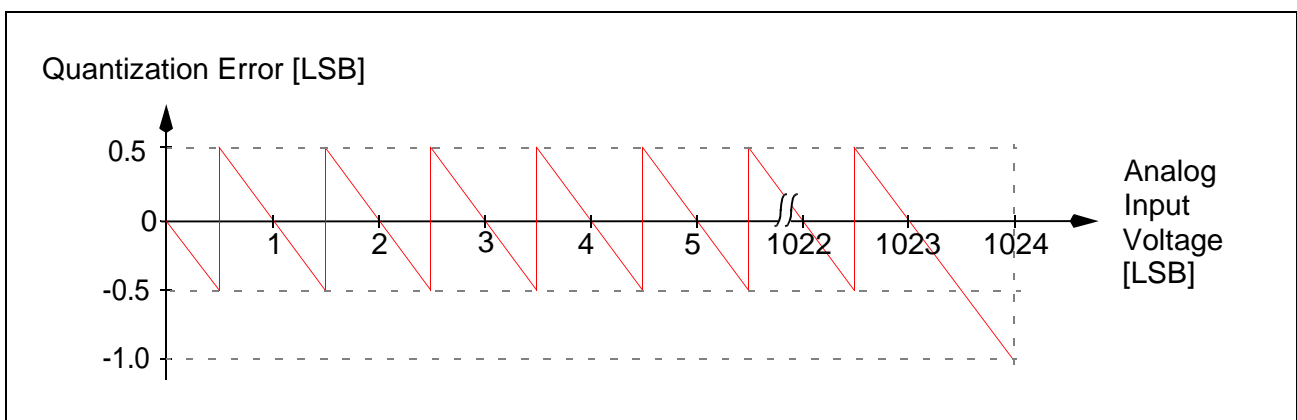

Figure 2 Quantization Error
The quantization step size is $1 \text{ LSB} = V_{\text{AREF}} / 2^f$. According to the Ideal Transfer Curve (1) the first digital transition, from 0 to 1, occurs at the analog value of 0.5 LSB. That is why the first step width of the Ideal ADC Transfer Curve (2) is 0.5 LSB and the last step width is 1.5 LSB. The inherent quantization error in relation to the analog input voltage is shown in **Figure 2**